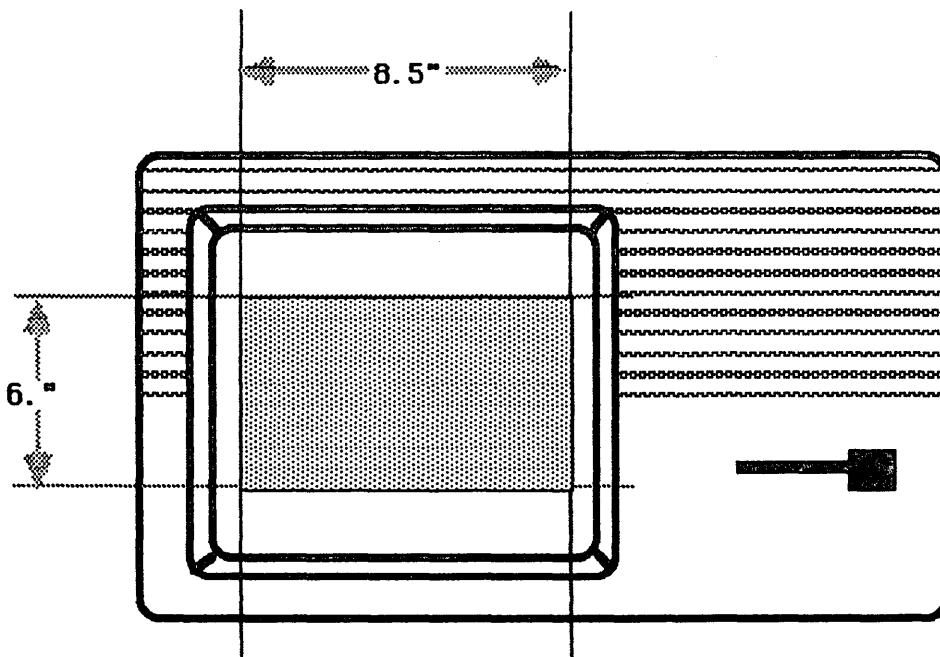

FIGURE 4
- a) Adjust the width potentiometer (on the video board) until the picture is approximately 8.5 inches wide. (See Figure 4.)
- a) Adjust the height potentiometer until the picture is approximately six inches in height. (See Figure 4.)